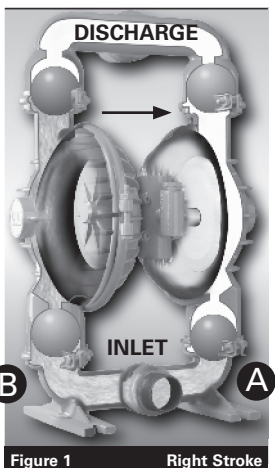

Figure 1 Right Stroke
**FIGURE 1** The air distribution system directs the air supply to the right air chamber and therefore, the back side of diaphragm A. The compressed air moves diaphragm A away from the center block toward the liquid chamber. The opposite diaphragm (diaphragm B) is pulled inward by the shaft connected to the pressurized diaphragm (diaphragm A). Diaphragm B is now on its suction stroke; air behind the diaphragm has been forced out to atmosphere through the exhaust port of the pump. Diaphragm A is currently working against atmospheric pressure. The movement of diaphragm B toward the center block of the pump creates a vacuum within liquid chamber B. Atmospheric pressure forces fluid into the inlet manifold forcing the inlet valve ball off its seat. Liquid is now free to move past the inlet valve ball (lower left) and fill the liquid chamber.